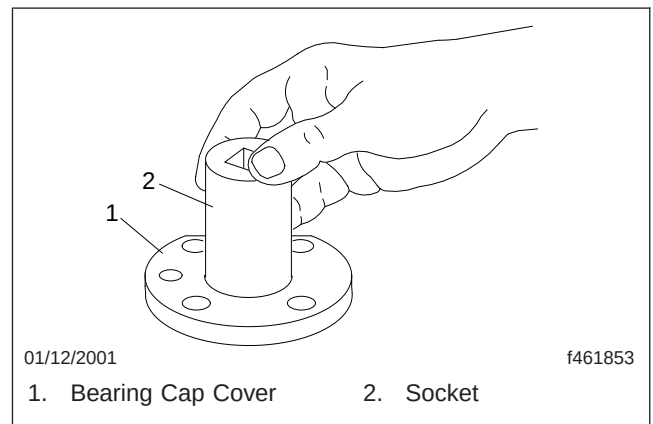

Fig. 2, Input Seal Removal
8. Tap the input (high pressure) seal out of the bearing cap cover using a suitable size socket or seal driver, and discard the seal; see Fig. 2.